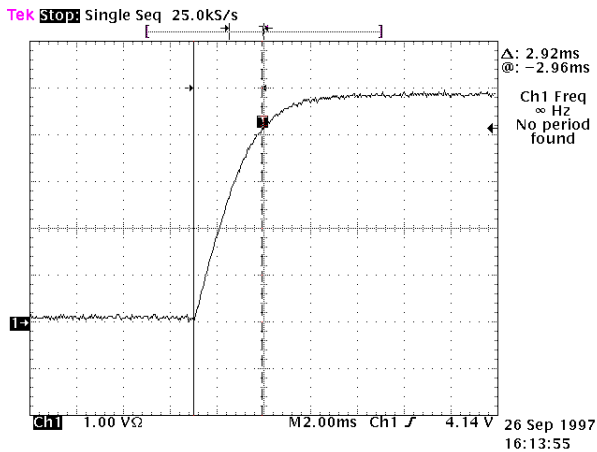
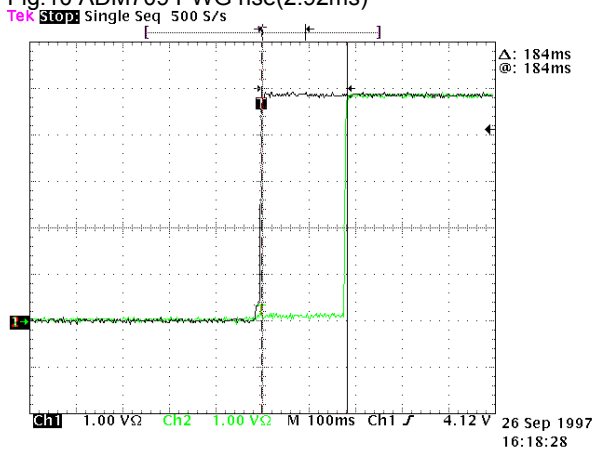

Fig.10 ADM709 PWG rise(2.92ms)
Fig.12 ADM709 PWG delay time(184ms)
- Please refer to Fig.10 - Fig. 12 for scope timing.